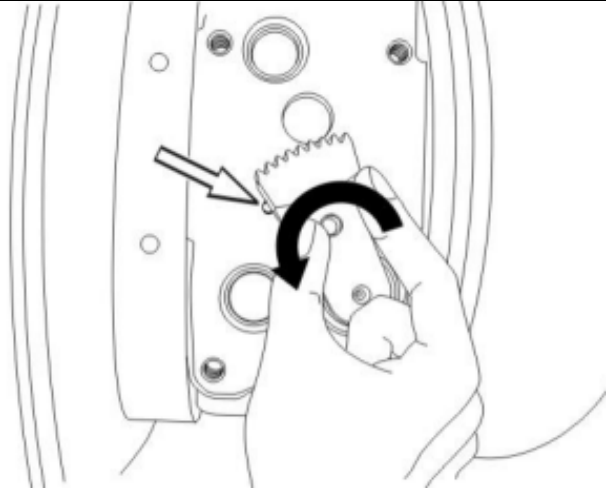

FIGURE 11
14. Rotate the sector gear fully counterclockwise until contact is made with the end stop of the variable geometry internal mechanism. 1/4 to 3/4 of the 3mm (0.118 inch) reference hole should be visible at the edge of the sector gear nearest the turbine housing (FIGURE 11).